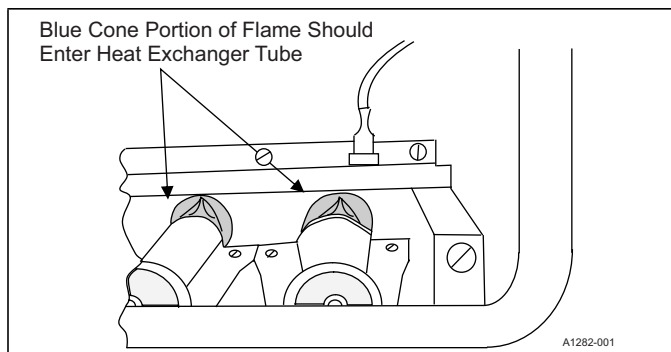

Figure 7: Burner Flame Drawing (Upflow Configuration Shown)
6. Examine the burner flames to make sure they are in good adjustment. See Figure 7 as a comparison to the actual flame.
5. Move (do not force) the gas control switch to the **off** position. See Figures 7 to 9.
7. Move (do not force) the gas control switch to the **on** position. See Figures 7 to 9.
4. Move the gas control switch to the **off** position. See Figures 7 to 9.
3. Check that the **on/off** switch on the gas valve is turned to the **on** position. See Figures 7 to 9.